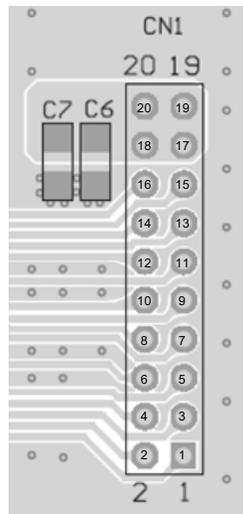

Figure 1: LED Load Connection Configuration
2. Connect an LED load anode to the LED output pad (CN1, 17 to 20), then connect each LED load cathode to the corresponding LED input pad (CN1, 1 to 16) on the evaluation board (see Figure 1 and Figure 14 on page 11).